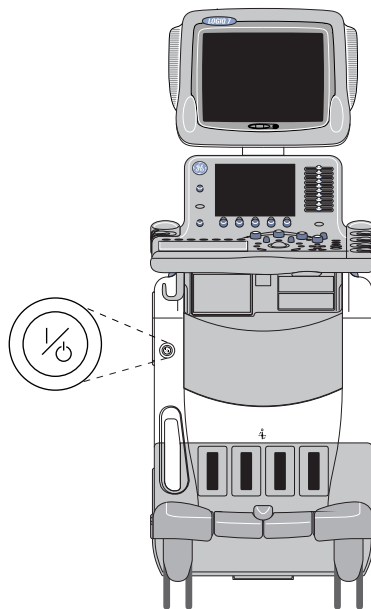

Figure 4-2 Power On/Off Standby Switch Location
- 1.) Press the **ON/OFF** key at the front of the System for about two (2) seconds. Refer to Figure 4-2.